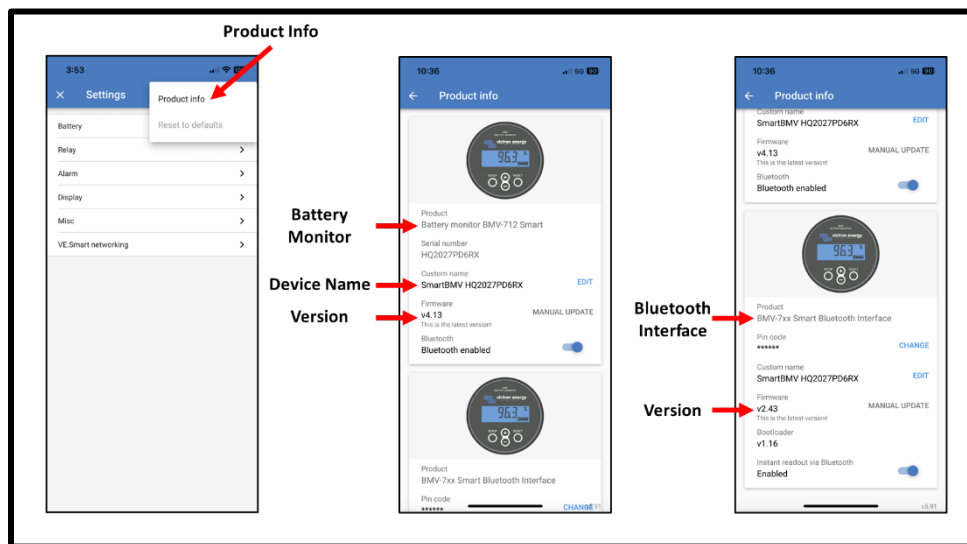

Figure 3. Victron Battery Monitor Product Info
- d. The **Product Info** page displays the firmware versions for both the Victron Battery Monitor and Bluetooth Interface. Refer to Figure 3